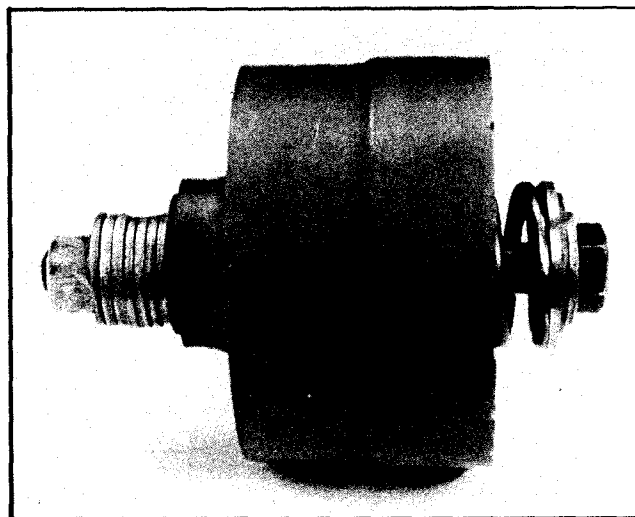

Figure 11. Cylinder block subassembly disassembly tool. (Tighten nut, remove snap ring, loosen nut to relieve spring tension).
In the following step, the spring located within cylinder block (9) is under a high tension and can cause bodily harm if retaining ring (15) is removed without adequate caution. See Figure 11 for disassembly instructions.
6. Remove parts (15) through (18) from the cylinder block (9).
8. Remove four mounting screws (1) and remove valve block (2) from housing (3). If unit is a through shaft model, install a new rear shaft seal (25) into valve block (2). Garter spring will face into the motor.
9. Remove bearing (5) and bearing spacer (8).
10. Locate a bearing spacer with calculated dimensions and place with shaft bearing (5). Use the original spacer if preload is not preformed. Set aside for final assembly.
11. Assemble spring (17), two washers (16) and (18) and retaining ring (15) into the cylinder block (9). See Figure 11 for instructions. Set the cylinder block S/A on a flat surface. Use Kraft paper between the block and surface to prevent scratching the cylinder block face.
12. Install pin retainer (14) into the cylinder block (9). Position the pin retainer approximately 1/4 inch below the surface, and orient the open end of the pin retainer to be away from the large spline openings.
13. Slide three pins (13) into cylinder block S/A until they bottom against pin washer (18).
14. Place spherical washer (12) on top of the three pins: Then install the shoe plate (11) with nine piston and shoe subassemblies (10) over the spherical washer and into the cylinder block S/A. Wobble the shoe plate to make sure that each piston is free within its bore in the cylinder block. (Flood all parts with clean hydraulic fluid).
15. Install swash plate (20) over shaft (21) into housing (3). Set housing (3) on its side and hold the shaft end so drive shaft (21) is horizontal. Slide the rotating group into the housing. Rotate drive shaft (21) if necessary, to match the shaft splines to cylinder block (9) and spherical washer (12).
16. Install bearing spacer (8) with chamfer toward the shoulder of drive shaft (21).
17. Install tapered roller bearing (5) over the shaft and against the spacer. The small diameter of the tapered roller bearing must face toward valve block (2).
18. Install two (2) housing pins (19) and place a new gasket (4) over them. Cover the unit and set aside for final assembly.